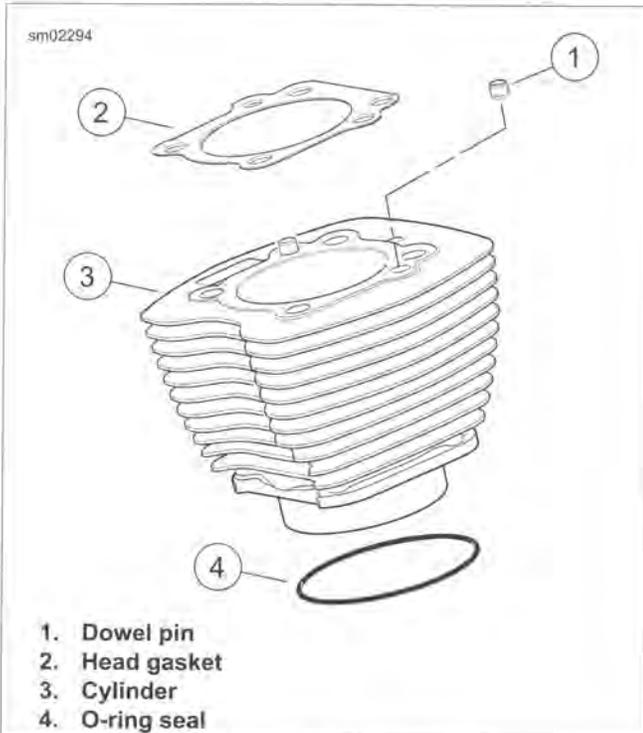

Figure 3-23. Cylinder Assembly
5. See Figure 3-23. Remove O-ring seal (4) from the bottom of the cylinder liner. Discard O-ring seal.